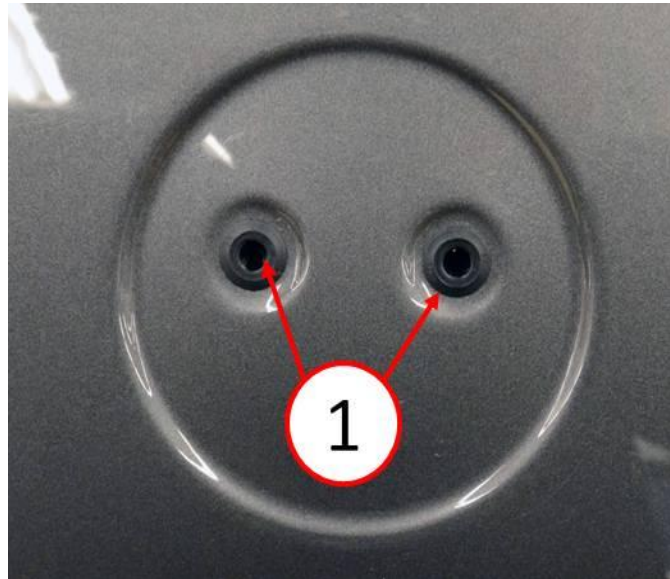

Fig. 3 Plastic Retainers
3. Verify the plastic retainers p/n 68073915AA shown in (Fig. 3) are fully seated in the liftgate. If they do not fully seat and/or remained on the emblem during removal, they must be replaced.